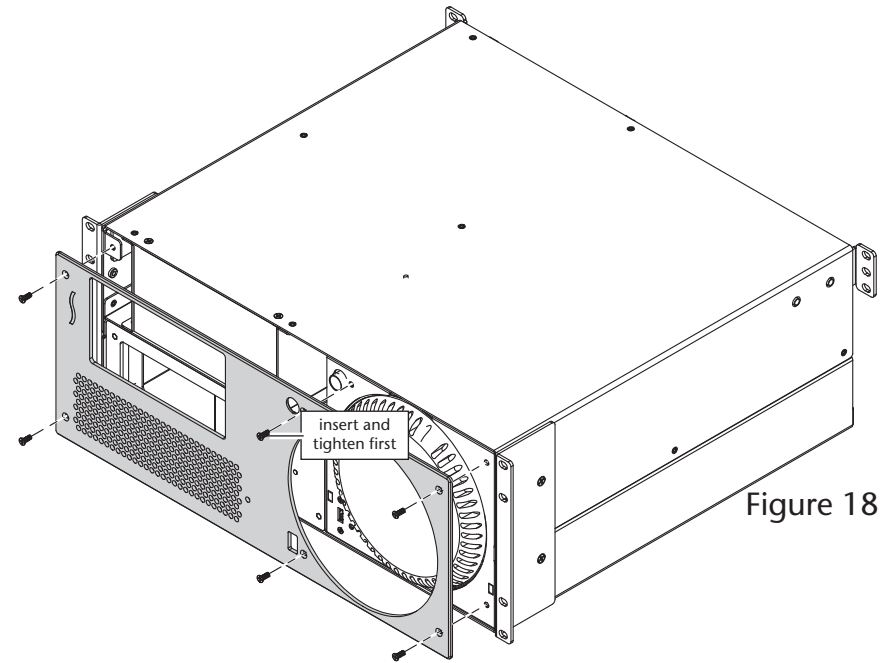

Figure 18
10. Using one of the screws you removed previously, loosely secure the front panel to the rackmount enclosure, inserting the screw into the hole next to the power switch opening. Verify the power switch operates smoothly (Figure 18).
11. Using the remaining screws, secure the faceplate to the rackmount enclosure, and then tighten the first screw you installed; **do not overtighten the screws** (Figure 18).